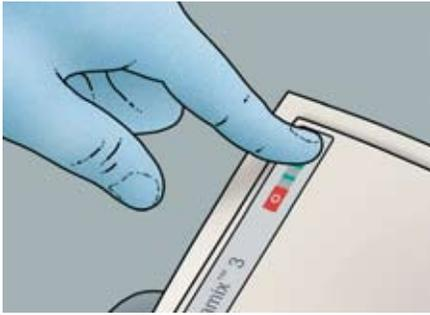

Fig. 7 On/off switch.
- The Pentamix 3 mixing unit can be turned off with the main switch on the front. (Fig. 7)
- Readiness is signaled by the solid green LED. The LED blinks when the device is doing a self-check after turning it on and during operating conditions that do not allow safe clinical use. (Fig. 7)